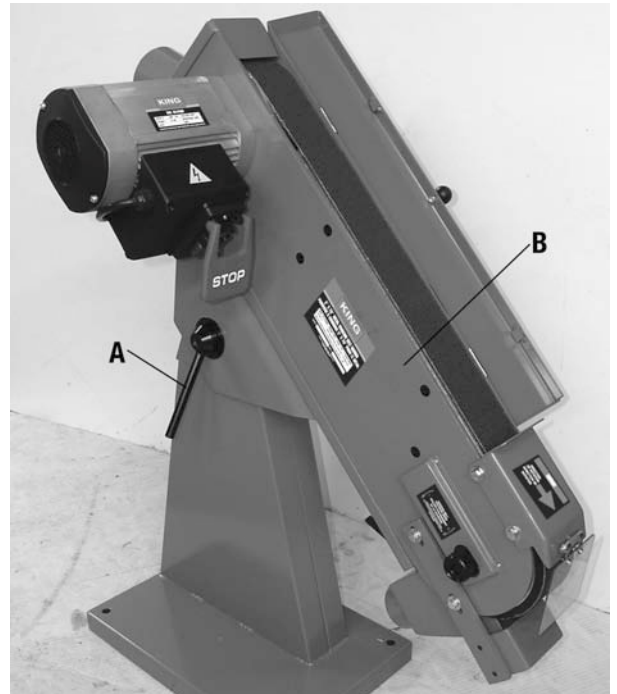

FIGURE 7
1. Loosen the angle adjustment lever (A) Fig.7.
2. Position the belt sander head (B) in the desired angle and retighten the angle adjustment lever.